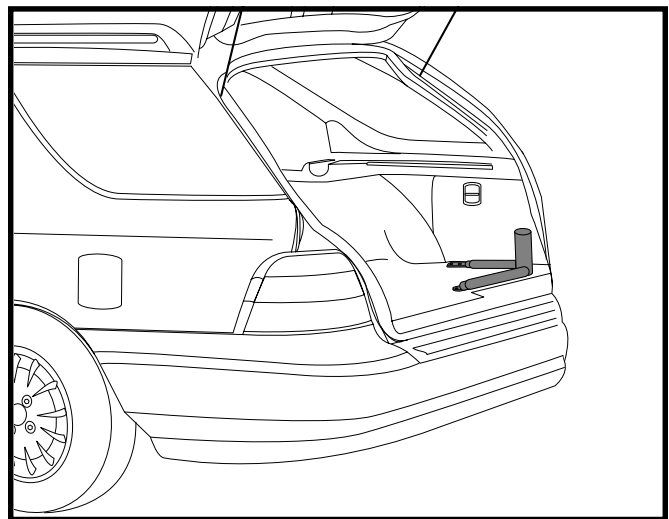
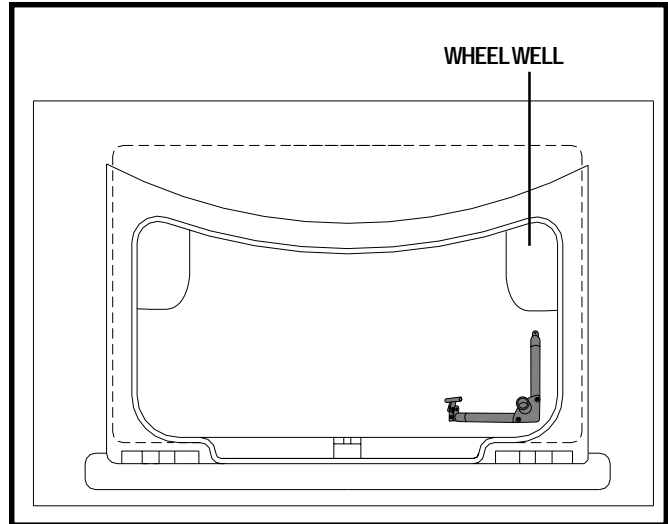
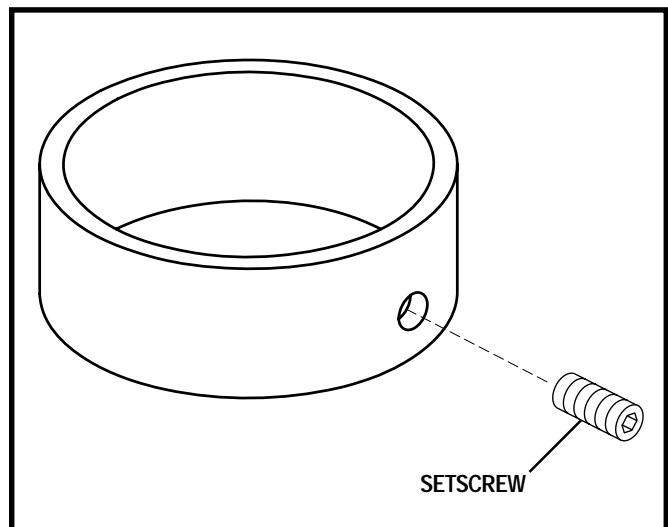

Figure 3. L-Base (Hatchback Installation)
Figure 4. L-Base (Trunk Installation)
Figure 6. Height Adjustment Ring Assembly
2. Before permanently installing the lift, place the L-base inside your vehicle in the area in which you intend to install it. **See figure 3** for L-base positioning for SUV's and vehicles with hatchbacks, or **figure 4** for trunk installation.
Position the L-base as shown in **figure 3**. You may need to situate the L-base so the wheel well does not interfere with the L-base extensions. Ensure there is adequate room for a mobility product to comfortably fit into the trunk.
2. Slide the height adjustment ring (see **figure 6**) over the upper post and tighten the setscrew (a good starting point is approximately 12 in. (30.5 cm) down from the top of the upper post). See **figure 4**. To ensure safe operation, the height adjustment ring must be secured no closer than 6 in. (15 cm) from the top of the upper post.